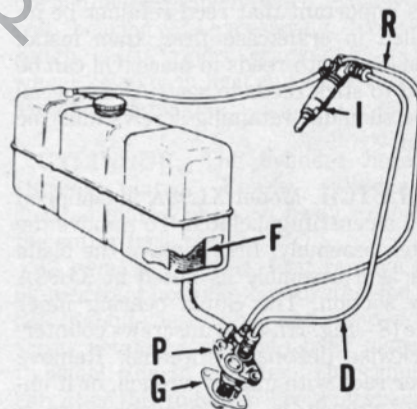
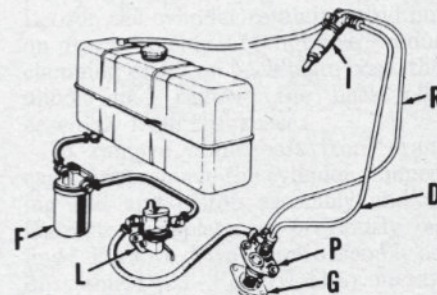
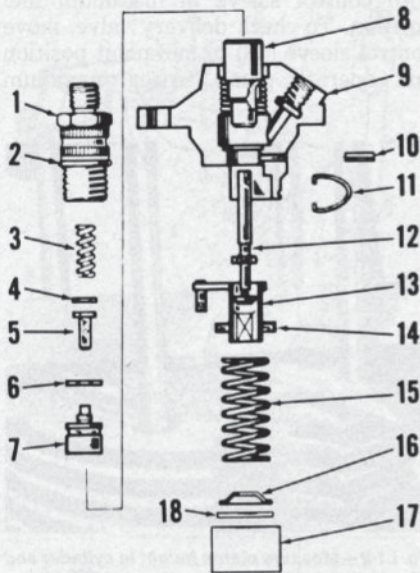
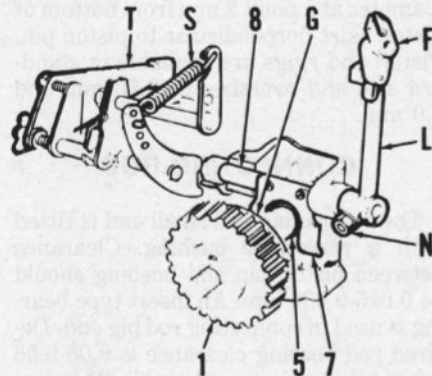

Fig. L1-3—Diagram of fuel system.
Fig. L1-4—Diagram of fuel system used on some models.
Fig. L1-5—View of injection pump.
Fig. L1-11—View of governor mechanism. Refer to text for operation.
FUEL FILTER. The fuel filter may be located inside the fuel tank as shown in Fig. L1-3 or a cartridge type filter as shown in Fig. L1-4 may be used. Renew fuel filter after every 300 hours of operation or sooner if required.
BLEED FUEL SYSTEM. If equipped with cartridge filter (F-Fig. L1-4), unscrew bleed screw and allow fuel to flow until air-free, then retighten screw.
On gravity flow fuel systems (Fig. L1-3), loosen fuel line fitting on injection pump and allow fuel to flow until air-free, then retighten fitting.
On models equipped with a fuel pump (L-Fig. L1-4), loosen fuel line fitting on injection pump and operate fuel pump primer lever until air-free fuel flows from fitting, then retighten fitting.
Injection pump timing is adjusted using shim gaskets (G-Fig. L1-3 and L1-4) between pump body and mounting surface on crankcase. To check injection pump timing, unscrew delivery line (D) fitting from delivery union (1-Fig. L1-5). Unscrew delivery union and remove spring (3), washer (4) and valve (5), then screw delivery union (1) into pump body. Move throttle control lever to full speed position. Rotate engine in normal direction (clockwise at flywheel end) so piston is on compression stroke.
Note fuel in delivery union will spill out of union. Stop engine rotation at moment fuel ceases to spill out of union. Timing dot (R—Fig. L1-6) on fan plate should align with injection timing dot (I) on fan shroud. Correct injection timing is 26° 20' to 28° 20' for Model 500 before serial number 1447084, Model 520 before serial 1448128 and Model 530 before serial number 1457466. Correct injection timing is 29° 20' to 31° 20' for models after the aforementioned serial numbers. To advance injection timing, remove shim gaskets (G—Fig. L1-3 and
Refer to Fig. L1-5 for view of injection pump. Disassembly and reassembly is evident after inspection of pump and referral to Fig. L1-5. Note that slot in barrel (8) must align with pin (10) and helix in plunger (12) must face pin (10).
(13—Fig. L1-5) pin with governor arm (F—Fig. L1-11). Tighten pump retaining screws to 29 N·m. Loosen clamp nut (N) then move throttle lever (T) to full throttle. Push governor lever (L) in until it stops thus moving injection pump control sleeve to maximum delivery. Tighten clamp nut (N).
Governor components must move freely for proper governor operation. Governor spring (S—Fig. L1-11) free length should be 56.9-57.0 mm. At a spring length of 71.9-72.0 mm, spring tension should be 13.7-15.7 newtons.
All models are equipped with a fly-weight centrifugal type governor which is attached to the back of oil pump drive gear as shown in Fig. L1-11. The oil pump drive gear (1) is driven by the crankshaft and rotates governor fly-weight assembly (G). The flyweights are interlocked with sleeve (5) to move fork (7) and rotate attached shaft. As the